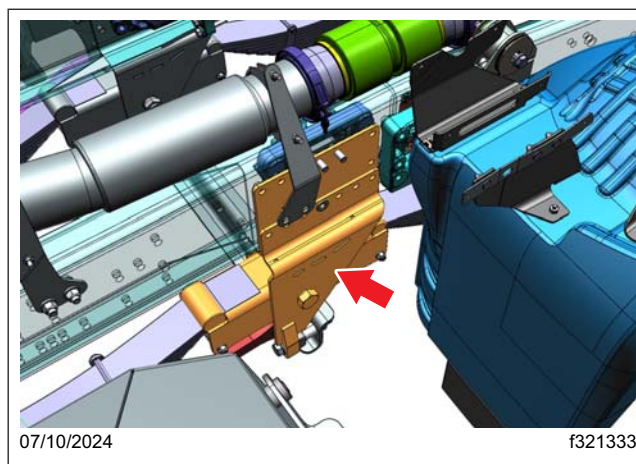

Fig. 16, Right-Hand Side Mid Suspension Hanger Assembly
6. Remove the mid-suspension hanger and bracket. See Fig. 16.